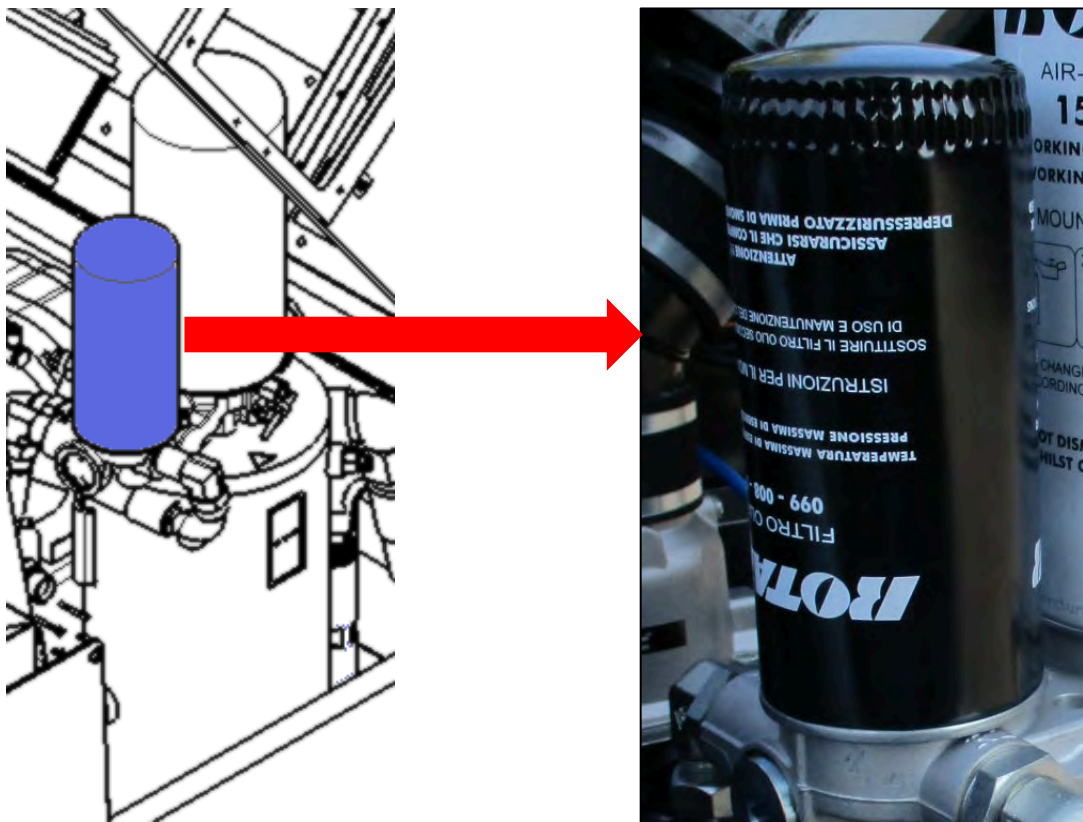

Figure 13.4-6 Compressor oil filter
- 2) Use a chain wrench to unscrew the filter to be replaced (Figure 13.4-6);